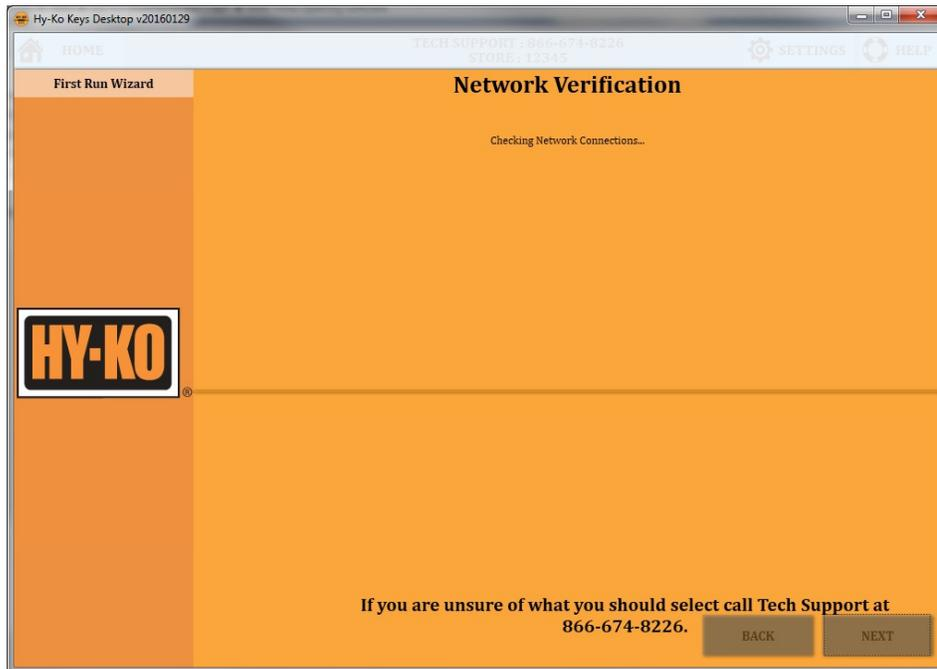

fig. 9
- Once the questions have been answered the software will check the computer's network connections (see fig. 9).